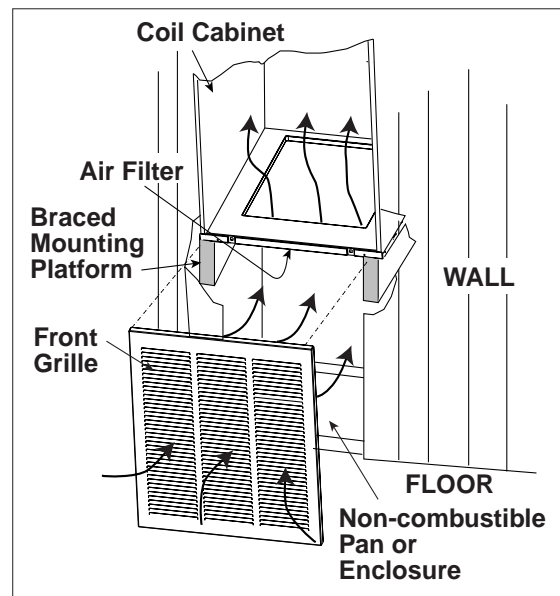

Figure 16. Over-the-Floor Return Air System
1. Without optional upflow stand: (see Figure 16) -install a filter with a minimum unrestricted medium area of 324 square inches below the coil cabinet/furnace assembly that is accessible for monthly cleaning or replacement by the homeowner
1. If floor underneath furnace is made of combustible material, locate a pan fabricated of non-combustible material with 1" upturned flanges under furnace return air opening (see Figure 16). Ensure that return air passage has no openings through supporting structure that would permit flame or hot gases to travel from space below up into space above supporting structure.
7. Install return air grille in closet preferably at same level as upflow stand or below mounting platform (see Figure 16).